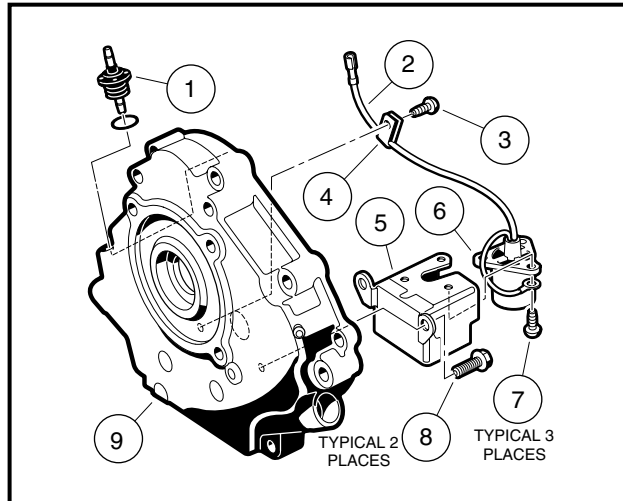

Figure 13-46 Oil Level Sensor
2. Disconnect the oil level sensor wire (2) from the cord connection (1) (**Figure 13-46, Page 13-25**).
3. Remove the two mounting screws (8) from inside of the crankcase cover and remove the oil level sensor and bracket.
1. If the oil level sensor was removed from the bracket, install sensor (6) into bracket (5) and secure with three screws (7) and tighten to 17 in-lb (1.9 N·m) (**Figure 13-46, Page 13-25**).
2. Position the sensor and bracket on inside of crankcase and install two mounting screws (8).
3. Connect sensor wire (2) to cord connector (1) (**Figure 13-46, Page 13-25**).
4. Install screw (3) through wire clamp and into crankcase cover. Tighten to 30 in-lb (3.4 N·m).